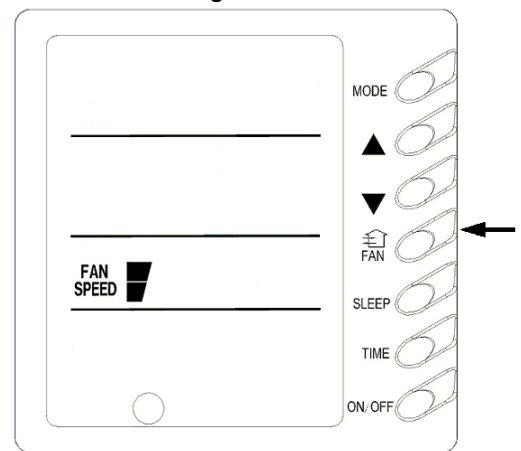

Fig.3
2) Fan Control (Fig.3 is about display region and the same as following figures.)